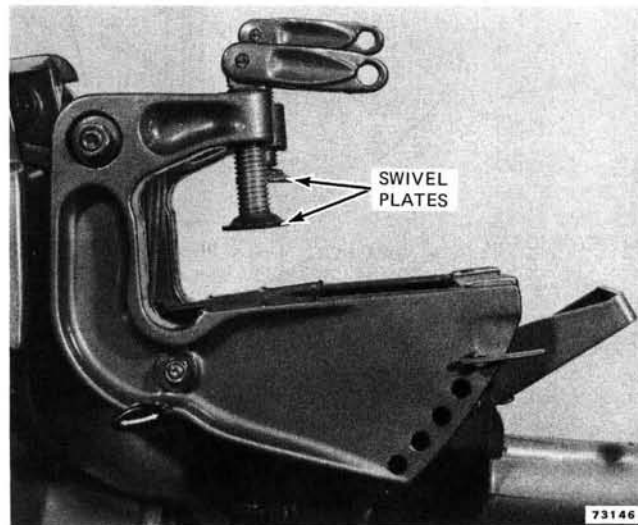

Figure 6-12. Clamp Screw Assembly
3. Inspect clamp screw assembly (Figure 6-12). Replace swivel plate if bent or loose. To install a new swivel plate remove screw and old plate. Apply OMC Locquic Primer (Part Number 384884) to the threads of the screw and allow it to dry four to five minutes. Then apply OMC Ultra Lock (Part Number 388517) to threads. Install new swivel plate with screw and tighten to torque specified in Section 2.